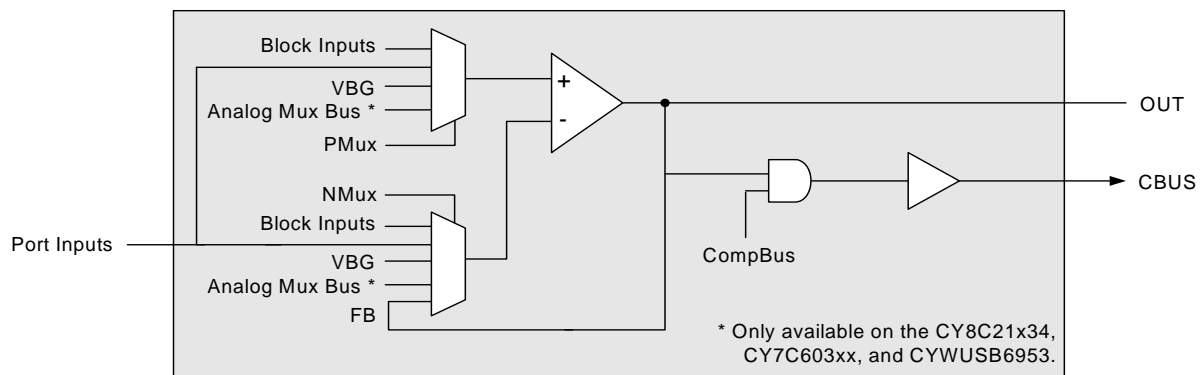

Figure 24-10. Analog Continuous Time Block Diagram for CY8C21x34, CY8C21x34B, CY8C21x23, CY7C603xx, and CYWUSB6953 PSoC Devices
To configure as a comparator, select any NMux choice except feedback (FB). To enable the comparator bus output, the CompBus signal must be set in the ACE0xCR1 register. See Figure 24-10.